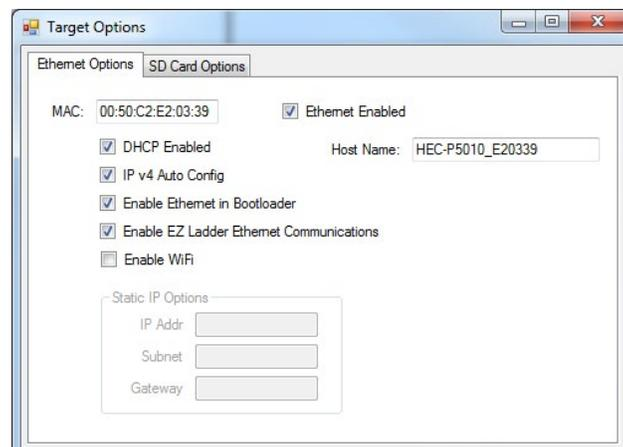

Figure 2.44 - HEC-P6XXX ETHERNET OPTIONS
8. Click the **TARGET OPTIONS** button. The Target Options window will open. There will be two tabs in this window. Click the **ETHERNET OPTIONS** tab. See Figure 2.44.